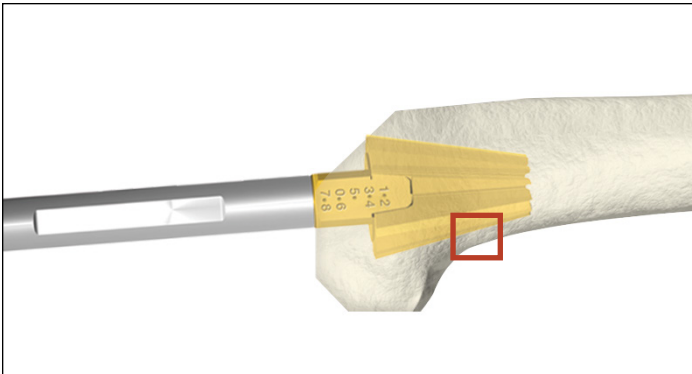

Figure 80
- ▶ **Caution:** Stop reaming if contact with the posterior cortex of the femur causes the Central Femoral Cone Reamer to deflect anteriorly (**Figure 80**). If bone void is not adequately filled by the corresponding size Central Femoral Cone, consider using a Femoral Cone (by proceeding to option two: Femoral Cone assembly and subsequent steps of the protocol) or use alternative methods to fill void.